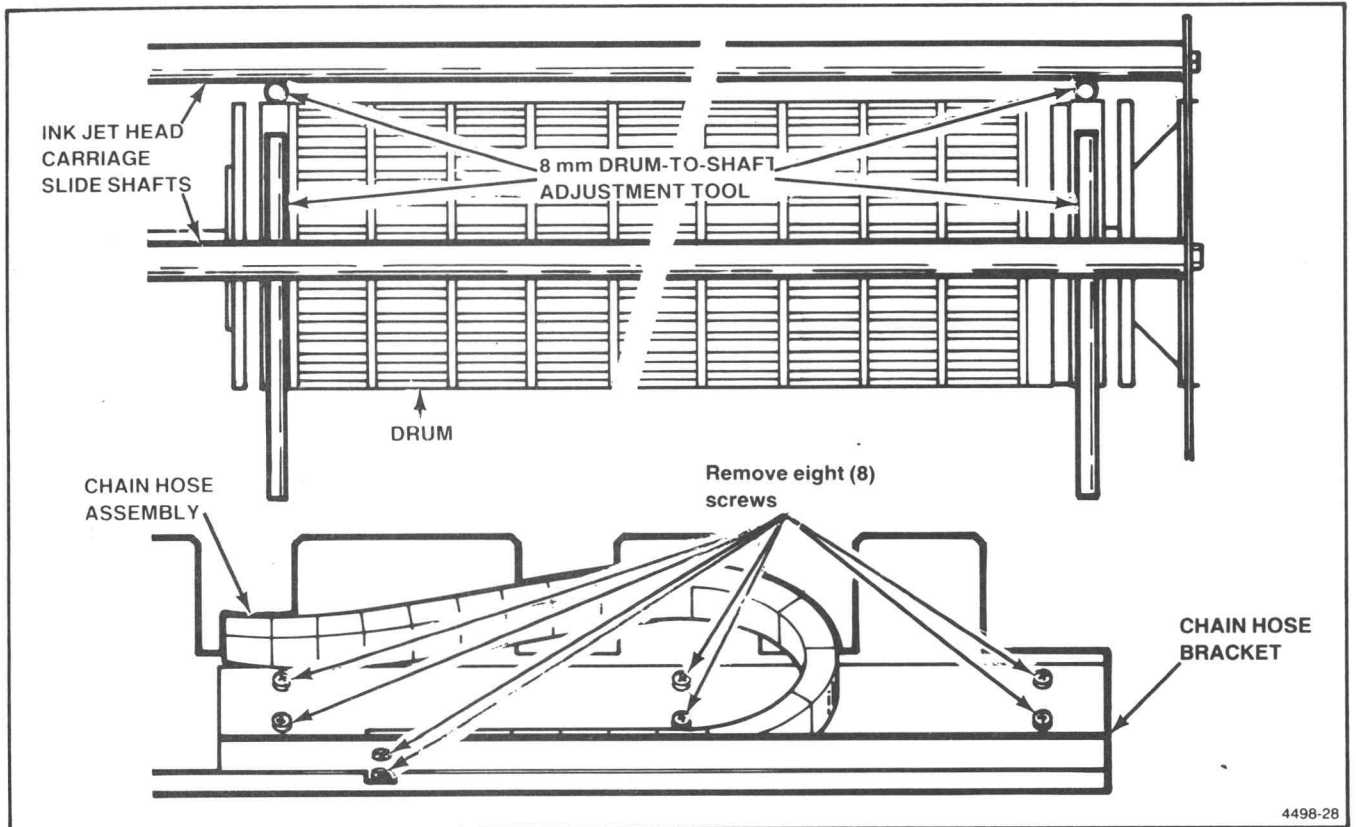

Figure 5-10. Drum-to-Carriage Shaft Adjustment Locations.
2. Refer to Figure 5-10 and insert the 8mm drum-to-shaft adjustment tool (pin gauge) between the paper drum and the ends of the two ink jet head carriage slide shafts (check four locations). Adjust the position of the shafts to obtain proper clearance.
3. Remove the eight screws holding the chain hose assembly to the chain hose bracket (see Figure 5-10). Remove the two screws that hold the chain hose bracket to the copier's frame and remove the bracket. Let the chain hose assembly hang free.